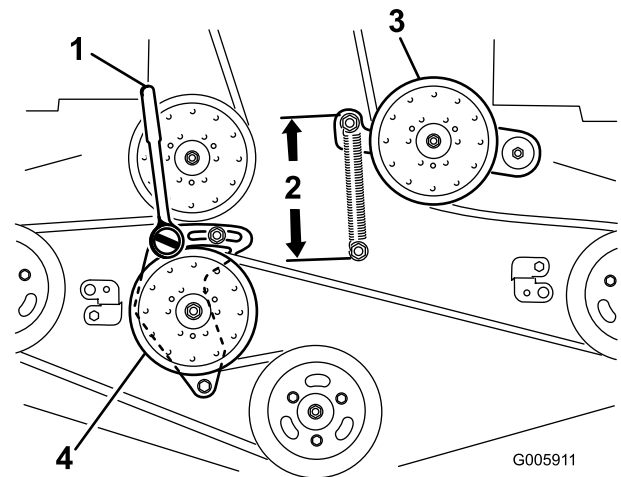

Figure 61
4. Loosen the fixed idler arm and adjust it to relieve belt tension (Figure 61).
7. Insert a ratchet with a short extension or a breaker bar into the square hole in the fixed idler arm (Figure 61).
9. To increase the belt tension, rotate the ratchet or breaker bar counterclockwise to move the fixed idler arm until there is 6–1/2 inches (16.5 cm) between the spring hooks (Figure 61).